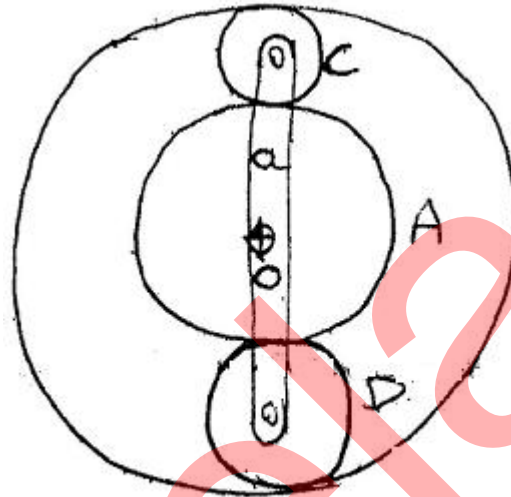

Fig. 1
- 15 An epicyclic gear train is shown in Fig. 1. The number of teeth on A and B are 80 and 200. Determine the speed of the arm a